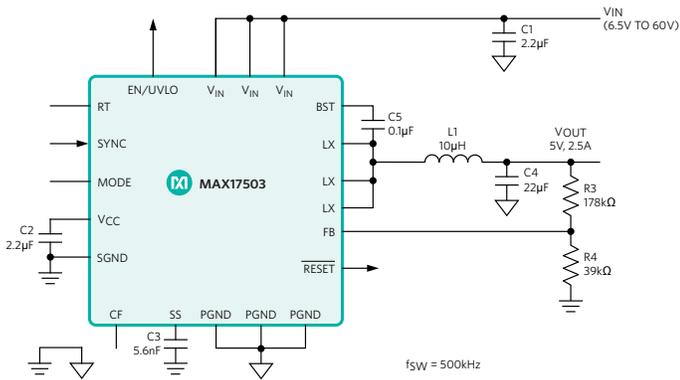

Figure 9. Typical Application Circuit for MAX17503 24VIN/5VOUT 2.5A Synchronous Rectification Buck Converter
**Figure 9** shows the **MAX17503**, 60V, 2.5A fully integrated buck converter, configured for 5V output.